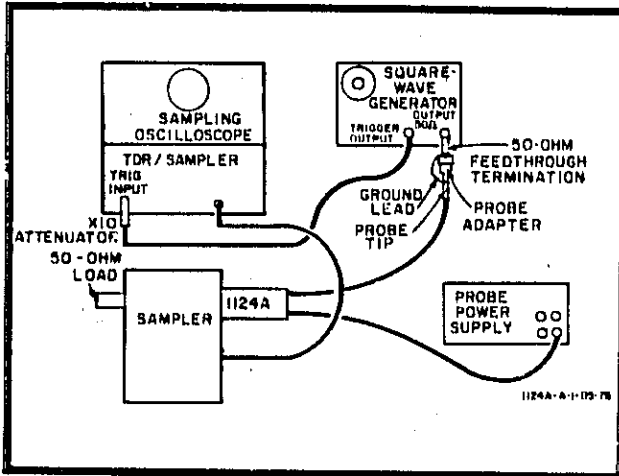

Figure 2. Sampling Oscilloscope Test Setup
- j. Connect equipment as shown in Figure 2.